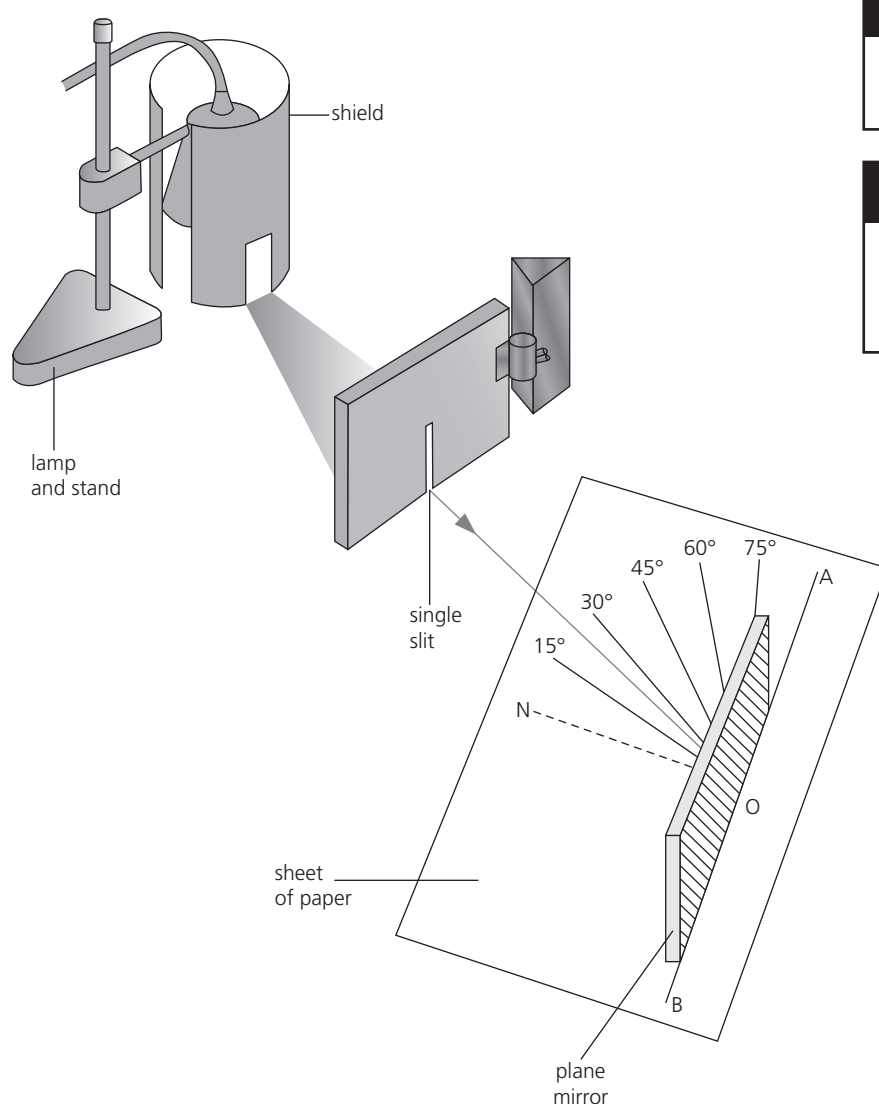

Figure 1 Experimental apparatus used to investigate the law of reflection,  $i = r$
- 1 On Figure 2, use a protractor to draw in lines from O at 15°, 30°, 45°, 60° and 75° to the normal ON (as indicated in Figure 1).